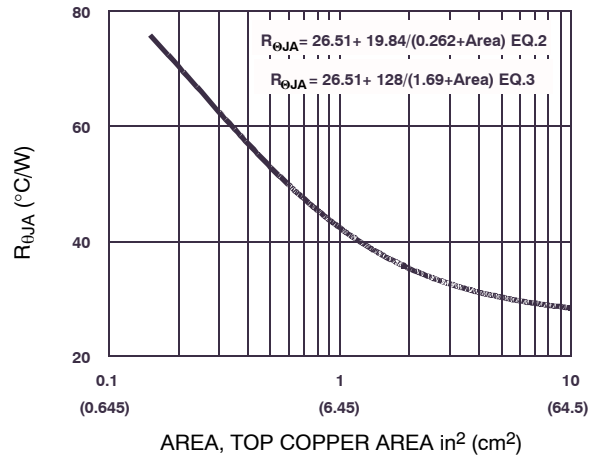

Figure 21. Thermal Resistance vs. Mounting Pad Area
**onsemi** provides thermal information to assist the designer's preliminary application evaluation. Figure 21 defines the  $R_{\theta JA}$  for the device as a function of the top copper (component side) area. This is for a horizontally positioned FR-4 board with 1 oz copper after 1000 seconds of steady state power with no air flow. This graph provides the necessary information for calculation of the steady state
Thermal resistances corresponding to other copper areas can be obtained from Figure 21 or by calculation using Equation 2 or 3. Equation 2 is used for copper area defined in inches square and equation 3 is for area in centimeter square. The area, in square inches or square centimeters is the top copper area including the gate and source pads.